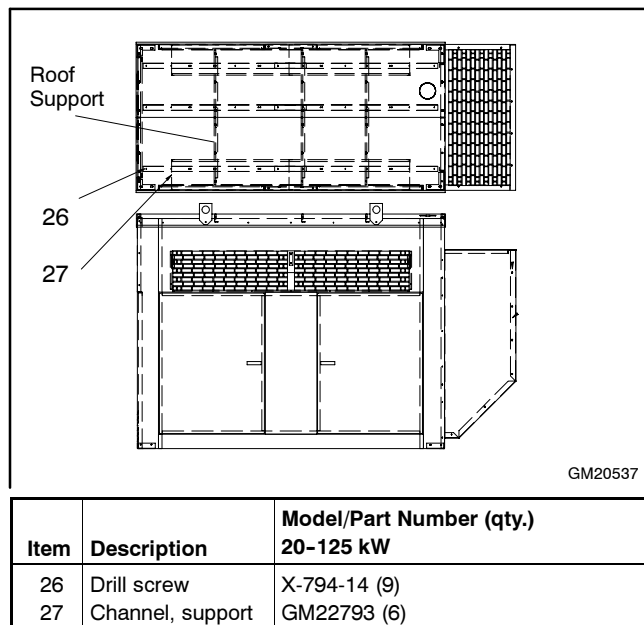

Figure 5 Installing Roof Support Channels
- 5.1 Install six support channels GM22793 to the bottom of the roof supports using nine drill screws X-794-4. See Figure 5.